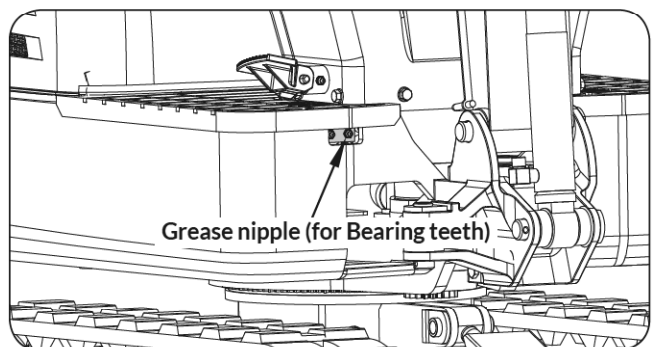

Figure 92
3. Fill with approx. 50g of grease (approx. 20 pumps with the grease gun). Distribute the grease over the teeth. (See **Figure 92**)